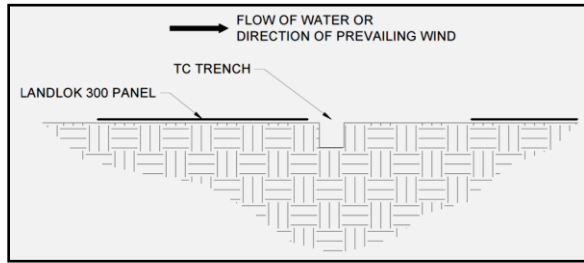
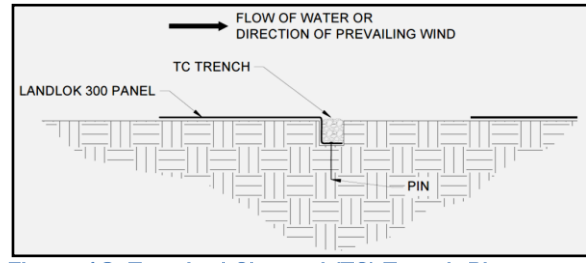

Figure 17: Terminal Channel (TC) Trench Alignment
Figure 18: Terminal Channel (TC) Trench Placement
11. Lay the last Landlok 300 panel on the upstream side of the TC trench (Figure 17). Place the panel edge in the TC trench, ensuring full coverage along the bottom of the entire TC trench with the Landlok 300 (Figure 18).
12. Secure Landlok 300 with pins in the TC trench. Suggested placement of pins for the TC trench is along the bottom of the trench with pins on 12 in (300 mm) centers (Figure 18).
13. Backfill and compact the TC trench (Figure 18).